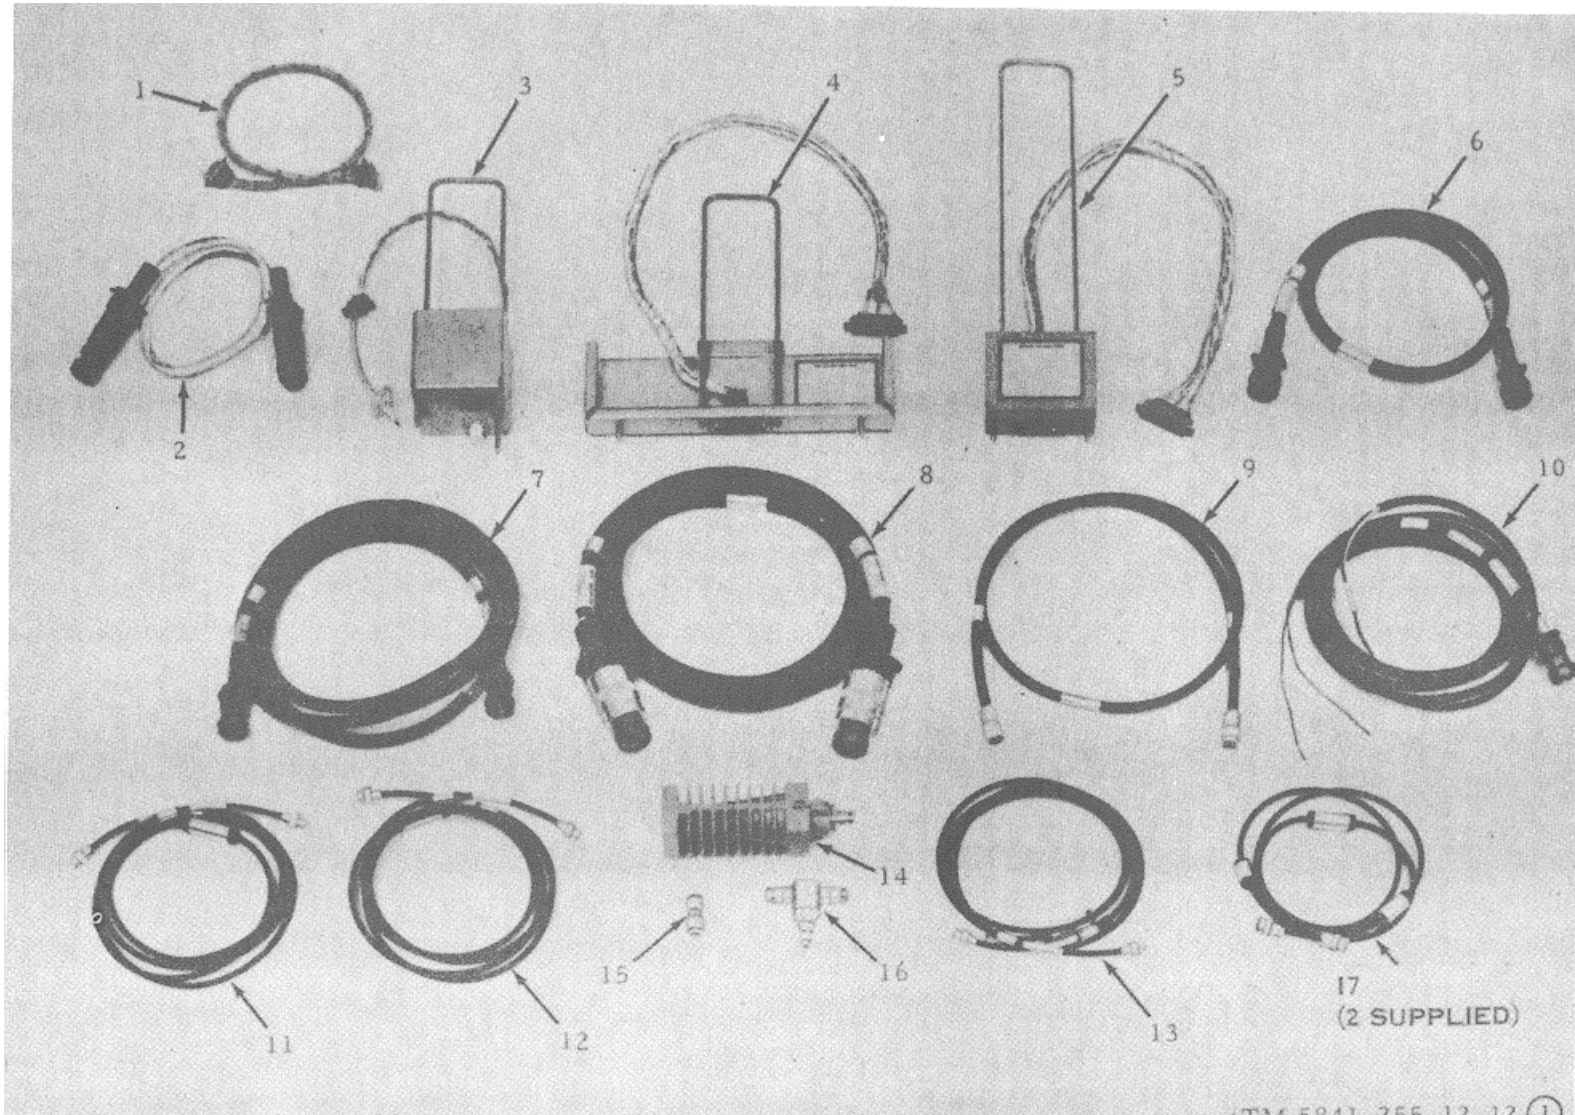

Figure 1-11 (1). Test Facilities Kit MK-856/AKT-18 (part 1 of 2)
s. Extenders, Module MK-7542/U and MK-7543/U (21 and 22, fig. 1-11). The module extenders are dummy modules which may be plugged into the slot normally occupied by a functional module in Converter-Storer, Signal Data CV-2094/A. The functional module is then plugged into the module extender to permit observation and dynamic checks while the equipment continues to operate. The significant difference between the two module extenders is that the MK-7542/U has 29 pin connectors and the MK-7543/U has 41 pin connectors.